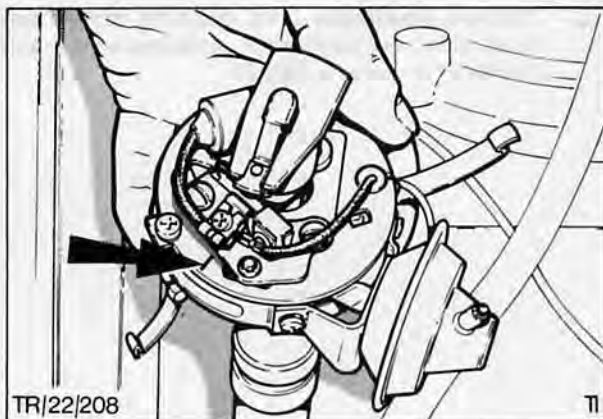

Fig. 34. Rotor arm position marked relative to body
5. Remove single bolt located at base of distributor, slide out assembly and mark position of rotor arm relative to body, Fig. 34.